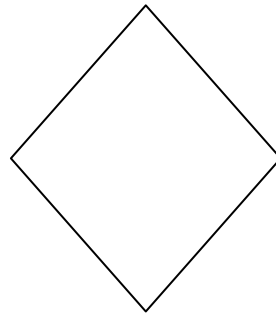

Figure 10
- (b) Find the shape factor for a diamond shape steel section as shown in Figure 10.